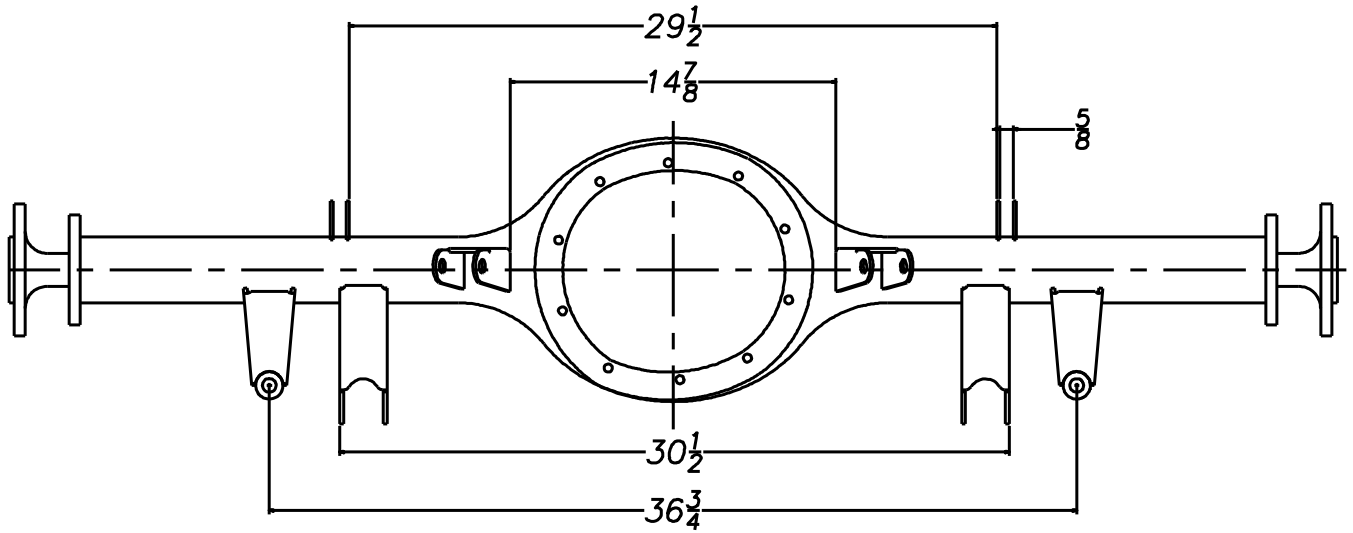
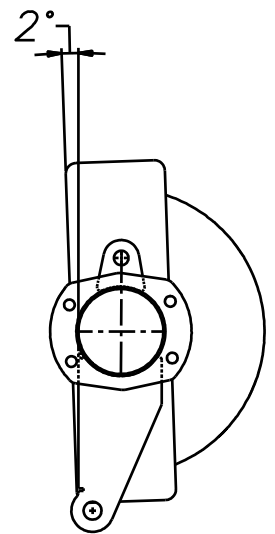

Figure 1
Figure 2
1. Begin by installing the Axle Brackets onto the housing at the distances shown in Figure 1. The Axle Brackets are symmetrical with the centerline of the housing. **PLEASE NOTE THAT YOUR HOUSING "BANJO" WILL LIKELY BE OFF CENTER!** For this reason, to locate the center of your housing, measure from the outside edge of each outer flange and mark the halfway point. As shown in Figure 2, your housing should be pointed **down** 2° from vertical, while all of the mounts (except for the angle brackets) should be vertical. The top face of the angle brackets will be horizontal. Once in place, tack weld them.